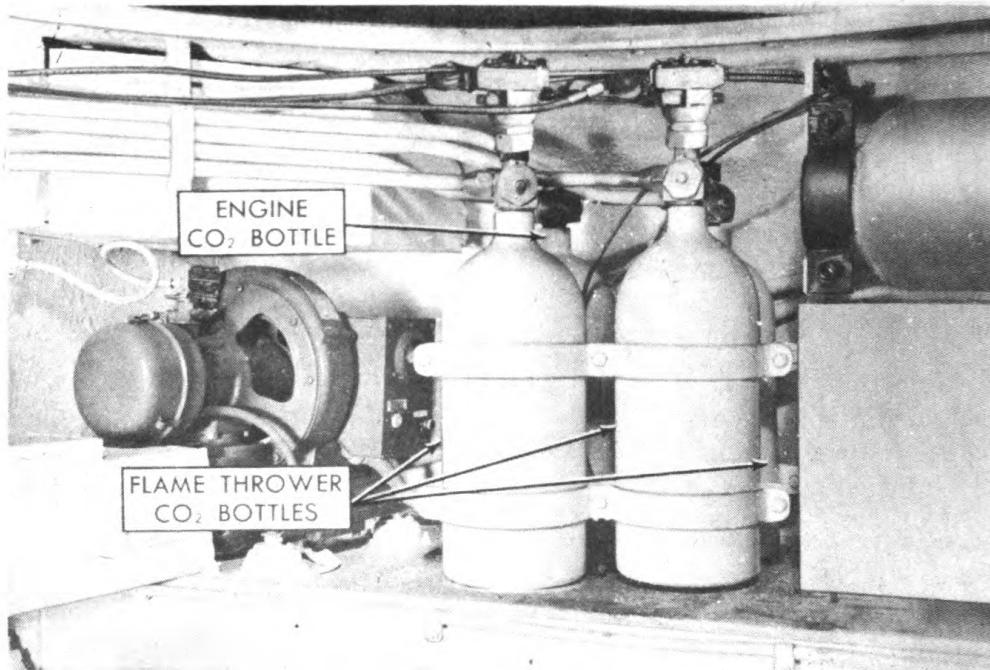

Figure 66—Auxiliary generator and CO₂ fire extinguisher cylinders on left sponson shelf.
The auxiliary generator has not been modified and its location is the same as in the normal medium tank (fig. 66). Access to the generator is possible from the basket by revolving the turret until the basket opening is opposite the generator.
a. The normal automatic fire extinguisher system has been augmented and relocated in the left sponson forward of the auxiliary generator (fig. 66).